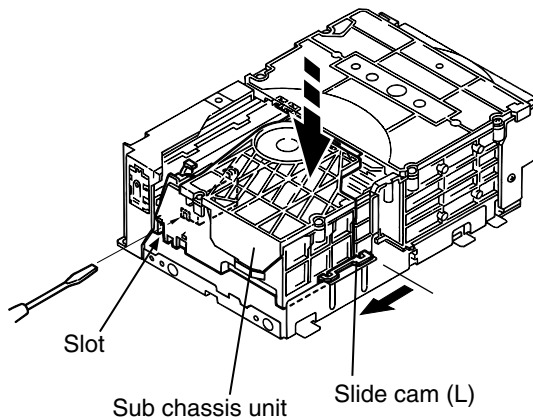

Fig.1
■ Removing the top cover (see Fig.1)
(See Fig.1 to 4)